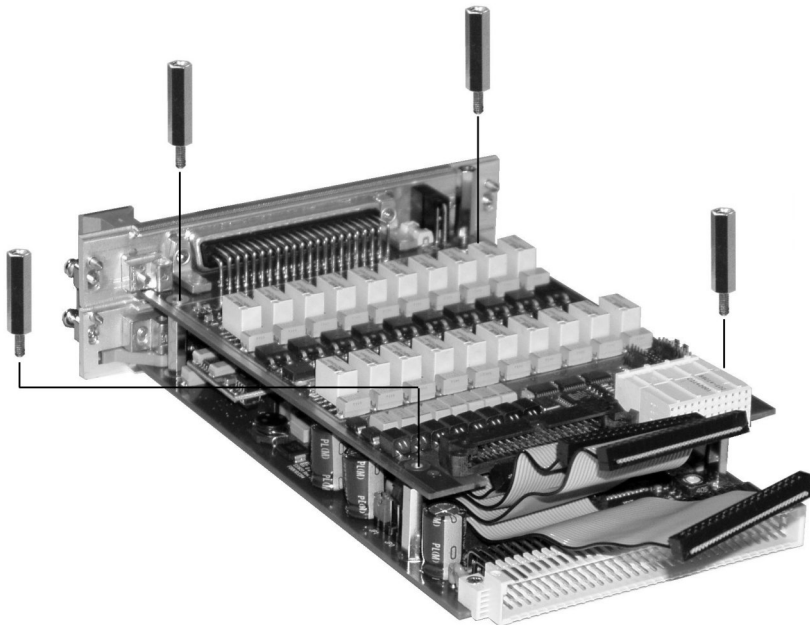

Fig. 4-6 Mounting the I/O Module
- Tighten the I/O module with the distancepins (see Fig. 4-6 on page 22).